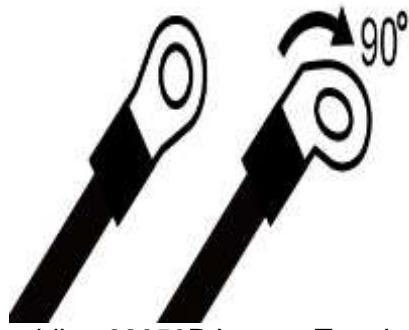

Figure 2-6 Assembling 62050P Inputer Terminal Safety Cover - 2
- b. Bend all of the wire terminals to 90° as Figure 2-6 shows.